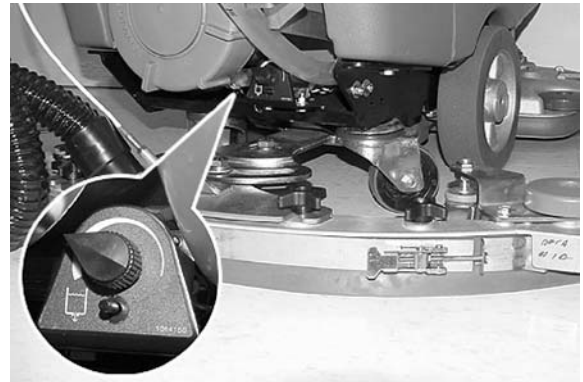

FIG. 21
- For conventional scrubbing, turn the solution flow control knob to a desired flow rate (Figure 21).